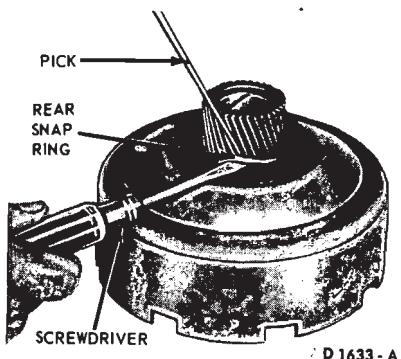

FIG. 56—Removing Sun Gear Snap Ring
3. Make sure that the steel pressure ring is in the groove on the piston. Position the disc spring in the cylinder with the dished face downward. Install the spring as shown in Fig. 56. Secure the disc with the retaining snap ring.
1. Remove the external snap ring on from the sun gear as shown in Fig. 56.